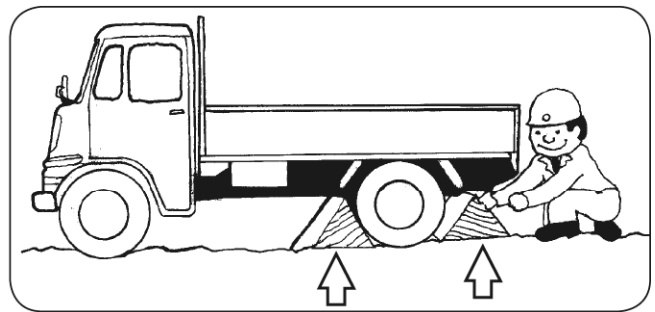

Figure 64
1. Apply the parking brakes of the truck, and block the drive wheels from both sides. (See Figure 64)